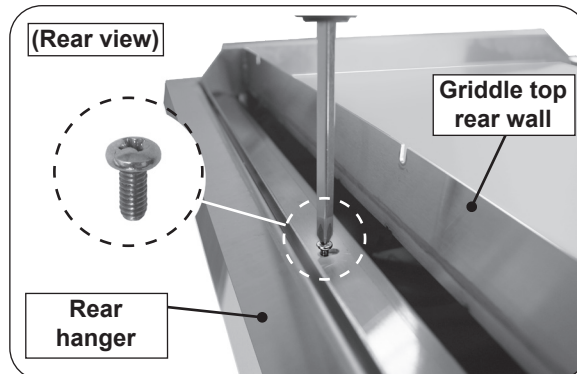

Fig. 30-2 Secure griddle top
2. Secure the griddle top by fastening the provided screw into the screw hole located on the rear of the griddle top (see Fig. 30-2).